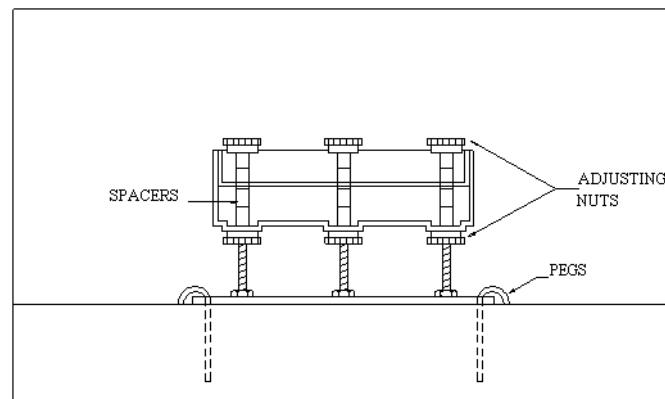

Figure 69 Assembling QMR102 on the Ground with Pedestal Plate
3. Place the pedestal plate with rain gauge assembly on the ground using the pegs supplied. If force is needed, then remove the rain gauge first. See Figure 69 on page 82.